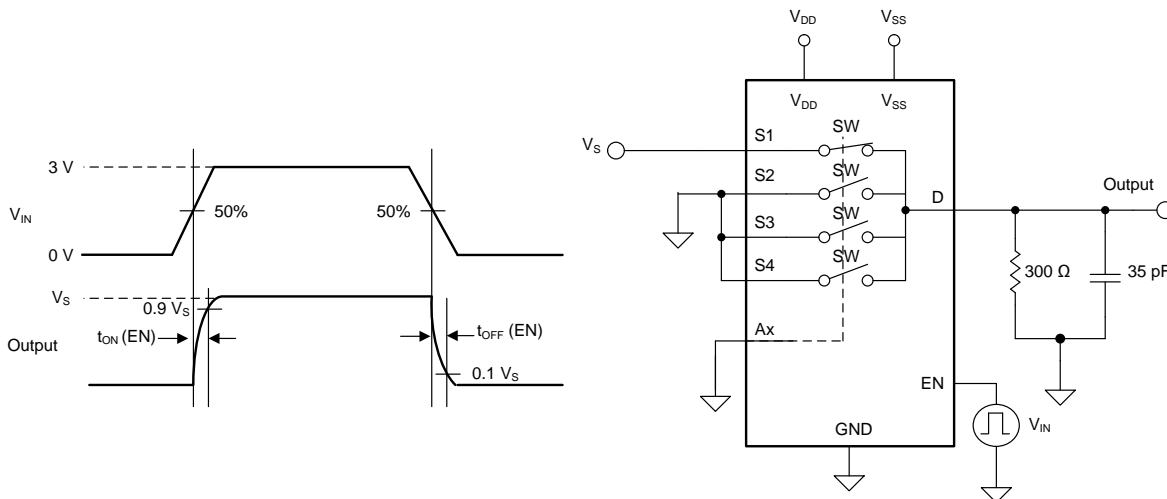

图 22. Turn-On and Turn-Off Time Measurement Setup
Turn-on time is defined as the time taken by the output of the TMUX6104 to rise to a 90% final value after the enable signal has risen to a 50% final value. 图 22 shows the setup used to measure turn-on time. Turn-on time is denoted by the symbol  $t_{ON (EN)}$ .
Turn off time is defined as the time taken by the output of the TMUX6104 to fall to a 10% initial value after the enable signal has fallen to a 50% initial value. 图 22 shows the setup used to measure turn-off time. Turn-off time is denoted by the symbol  $t_{OFF (EN)}$ .